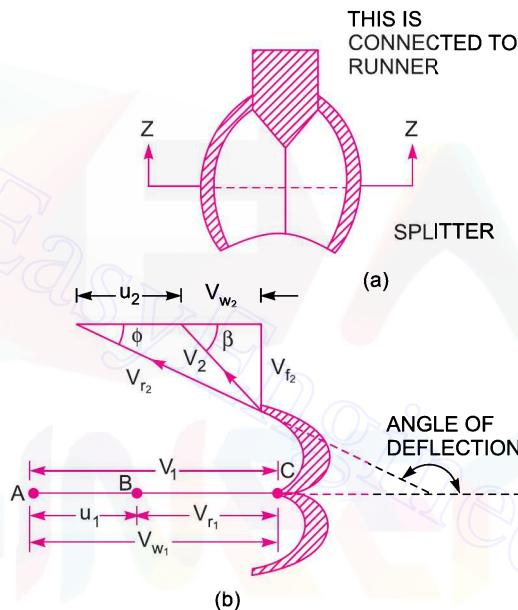

Fig. 18.5 Shape of bucket.
**18.6.1 Velocity Triangles and Work done for Pelton Wheel.** Fig. 18.5 shows the shape of the vanes or buckets of the Pelton wheel. The jet of water from the nozzle strikes the bucket at the splitter, which splits up the jet into two parts. These parts of the jet, glides over the inner surfaces and comes out at the outer edge. Fig. 18.5 (b) shows the section of the bucket at Z-Z. The splitter is the inlet tip and outer edge of the bucket is the outlet tip of the bucket. The inlet velocity triangle is drawn at the splitter and outlet velocity triangle is drawn at the outer edge of the bucket, by the same method as explained in Chapter 17.